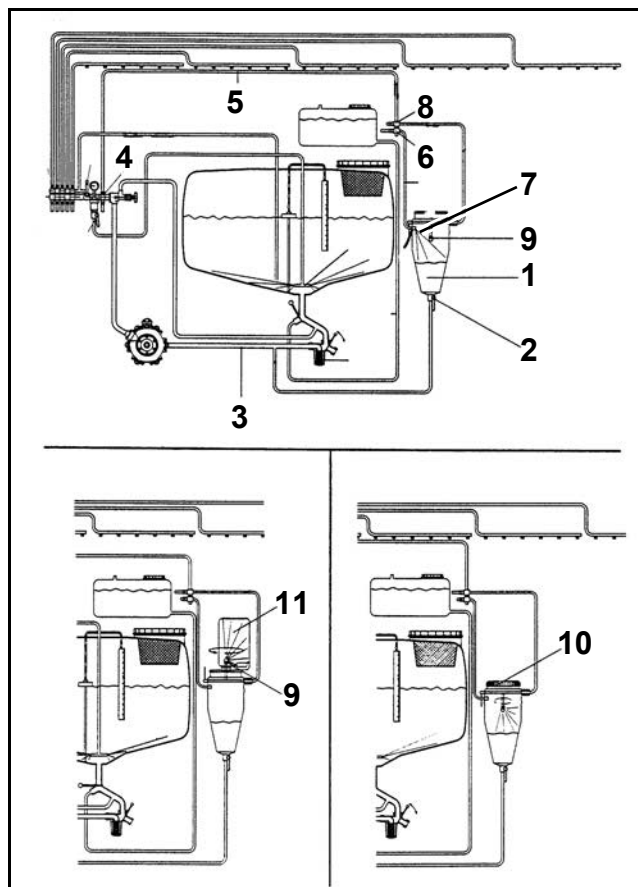

Fig. 160
- Open single tap (Fig. 160/ 2) by watching the scale and induct the desired amount of spray agent.